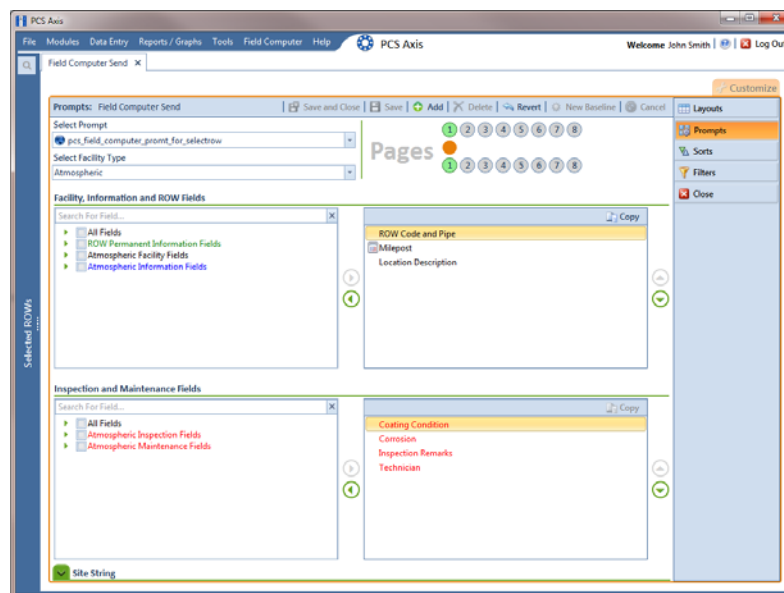

Figure 8-19. Prompts
- 4 Click the **Customize** tab , then the **Prompts** button  to open the *Prompts* page (Figure 8-19).